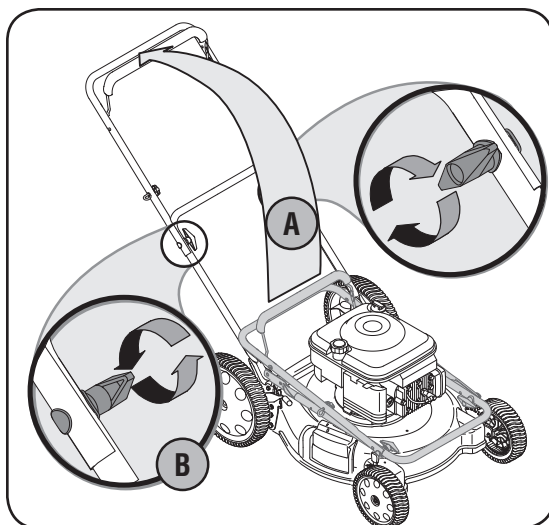

Figure 1
- a. Pull up and back on the upper handle to raise the handle from position A into the operating position. See Figure 1.